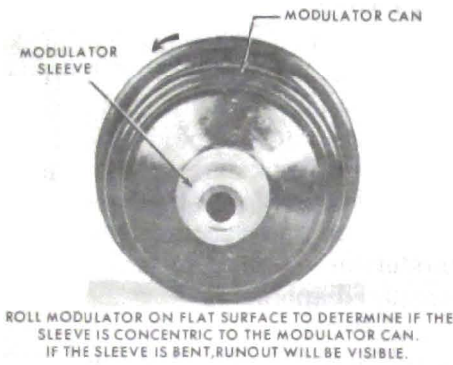

Figure 76-798 - Checking Modulator Sleeve Alignment
2. Check modulator valve sleeve alignment. Roll modulator on a flat surface to determine if the sleeve is concentric to the modulator can. See Figure 76-798. If the sleeve is bent, runout will be visible, and modulator must be replaced.